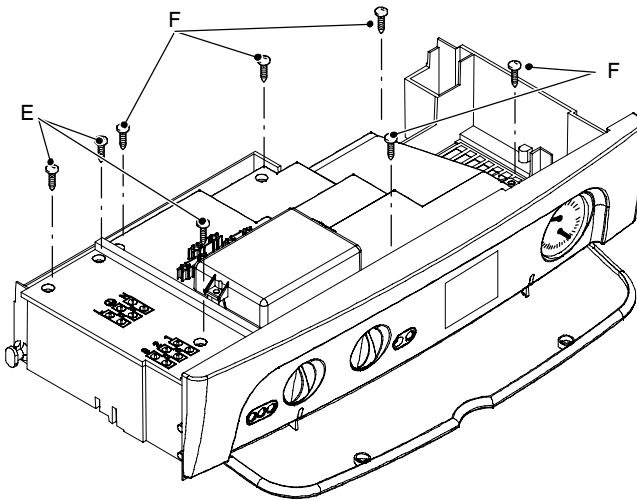

Fig. 5
- Remove the screws *E* and remove the service panel (Fig. 5);
- To gain access to the electronic regulation PCB and the full sequence ignition device remove the screws *F* and remove the control panel lid (Fig. 5);